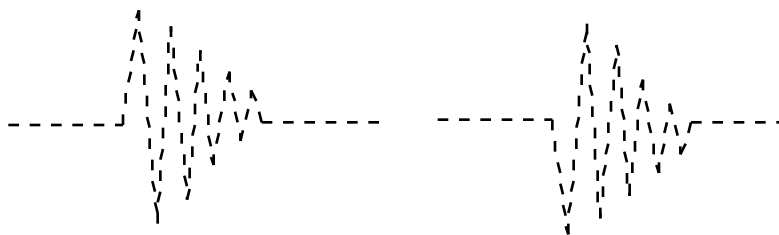

Figure 5. A correctly phased signal (left) and a signal 180° out of phase (right)
5. **Phasing:** Optimizing the phase of the deuterium signal is very important for a proper and stable lock. If the deuterium signal is not correctly phased, the lock will be unstable. It is important that the lock signal always deflect up first and then down as it sweeps across the screen (see Figure 5). To determine the correct phase, depress the spacebar. Two superimposed signals will appear on the screen. Adjust the PHASE until the images are symmetrical and the baselines are superimposable. The height of the initial upward sweeps should be the same. If it is impossible to get the signals the same height and the height changes from sweep to sweep, check for saturation of the signal. To return to the single sweep signal, press the spacebar again.